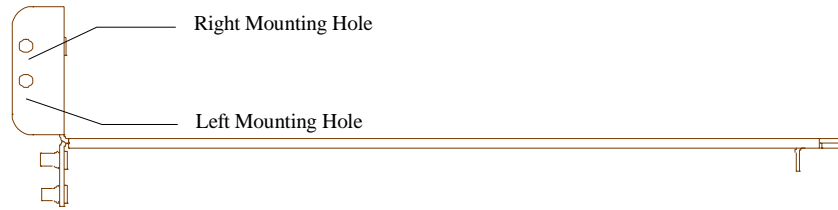

Figure 3 Permanent Divider Mounting Holes
1. Install the kit provided Double Position Permanent Divider using the left mounting hole in the divider (see Figure 3 for orientation). The divider replaces the left adjacent position (5th position in this example) divider previously removed. The divider hooks into the front slot first. Filled in triangles are provided on the label to assist in aligning up the ends of the divider. Align the divider over the right-most colored triangles of the right position and at each end of the position. The divider is forced over these triangles when mounted correctly using the left mounting hole.
3. Install the kit supplied Double Position Permanent Divider (with Retainer Clamp Bracket attached) using the right mounting hole in the divider (see Figure 3 for orientation). The divider replaces the left adjacent position (5th position in this example) divider previously removed. The divider hooks into the front slot first. Filled in triangles are provided on the label to assist in aligning up the ends of the divider. Align the divider over the left-most colored triangles at each end of the position. The divider is placed over these triangles when mounted correctly using the right mounting hole.
1. Install the kit provided Double Position Permanent Divider using the left mounting hole in the divider (see Figure 3). The divider replaces the left adjacent position (5th position in this example) divider previously removed. The divider hooks into the front slot first. Filled in triangles are provided on the label to assist in aligning up the ends of the divider. Align the divider over the right-most colored triangles at each end of the position. The divider is placed over these triangles when mounted correctly using the left mounting hole.